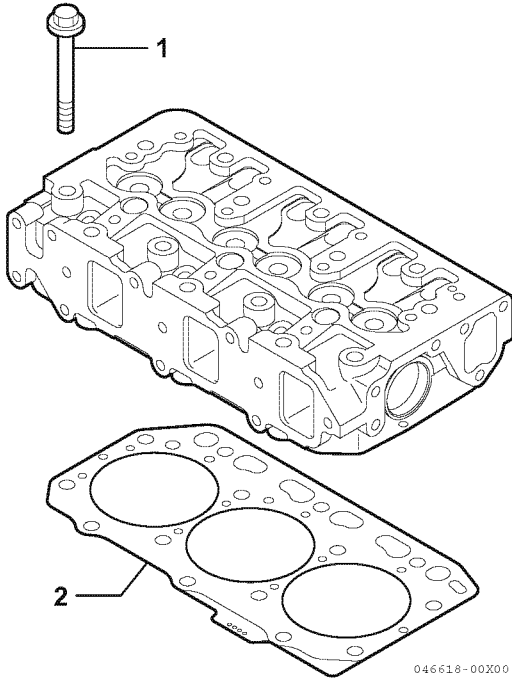
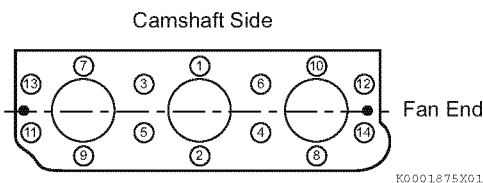

Figure 6-30
Figure 6-31
1. Carefully clean both the combustion surface of the cylinder head and the top surface of the cylinder block. Then place a new cylinder head gasket (2, **Figure 6-30**) on the cylinder block.
3. Lightly oil the threads of the cylinder head bolts (1, **Figure 6-30**). Tighten the bolts to the specified torque in two steps as shown in the chart below. Tighten in the sequence shown in (**Figure 6-31**). See *Special Torque Chart* on page 6-10 for specification.